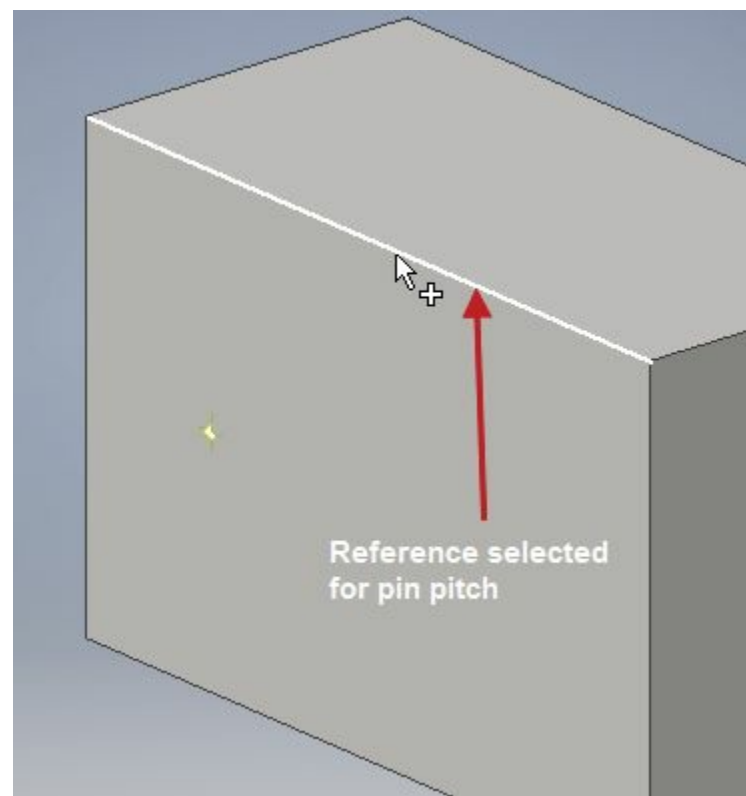

Figure-28. Reference selected for pin pitch
- Select a reference like in Figure-28. You can flip direction of pin pitch by using the **Flip** button next to Select reference button.